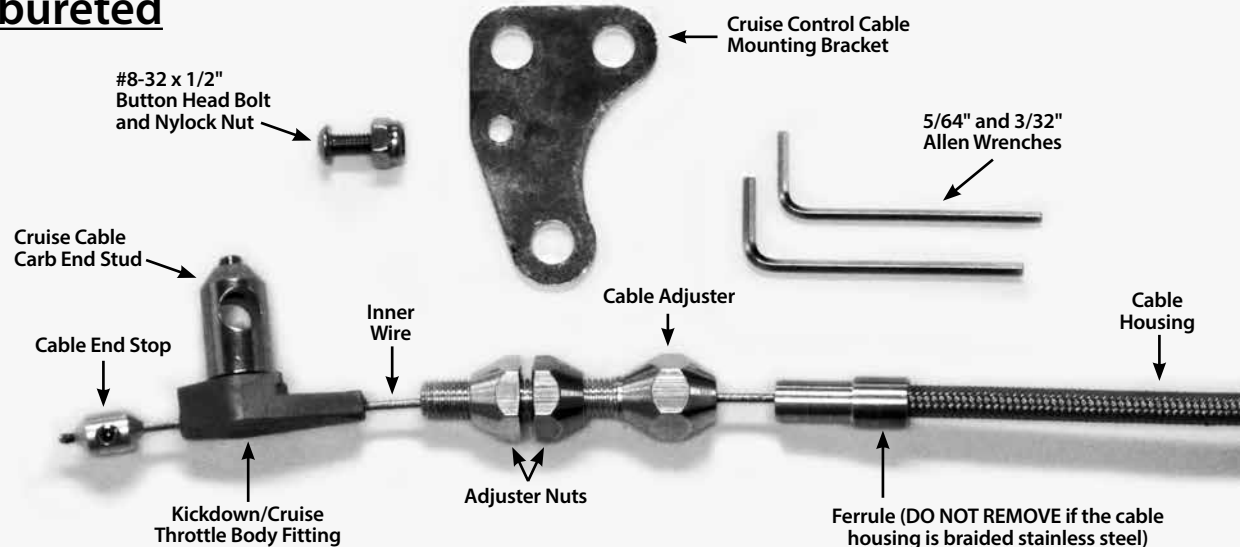
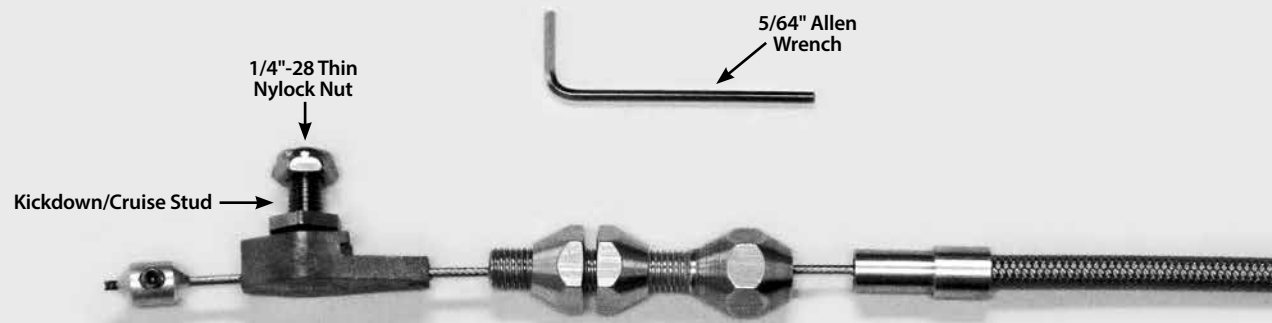

Fig. 1
Fig. 2
Refer to Fig. 1, 2 and 3 for the part names.
Step 2: Remove the cable end stop, kickdown/cruise throttle body fitting, and cruise cable carb end stud (carbureted applications) or kickdown/cruise stud (TPI applications) from the Lokar Cruise Control Cable inner wire. Remove the cable adjuster from the end of the cable housing. **DO NOT** remove the ferrule if the cruise control cable has a braided stainless steel housing! If the cruise control cable has a black universal housing, remove the ferrule. **Fig. 1 & Fig. 2.**